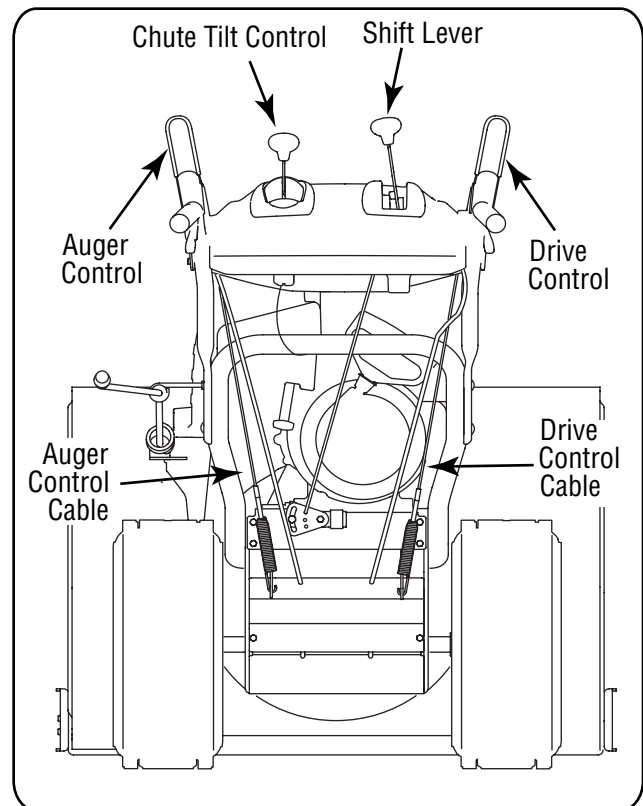

Figure 3-11
1. When the auger control is released and in the disengaged "up" position, the cable should have very little slack. It should NOT be tight. Refer to Figure 3-11.
1. With the engine turned off, move the shift lever into sixth (6) position. Refer to Figure 3-11.
1. From beneath the handle, pull downward on the appropriate cable and unhook the spring found on the end of the cable from its respective actuator bracket. Refer to Figures 3-11 and 3-12.